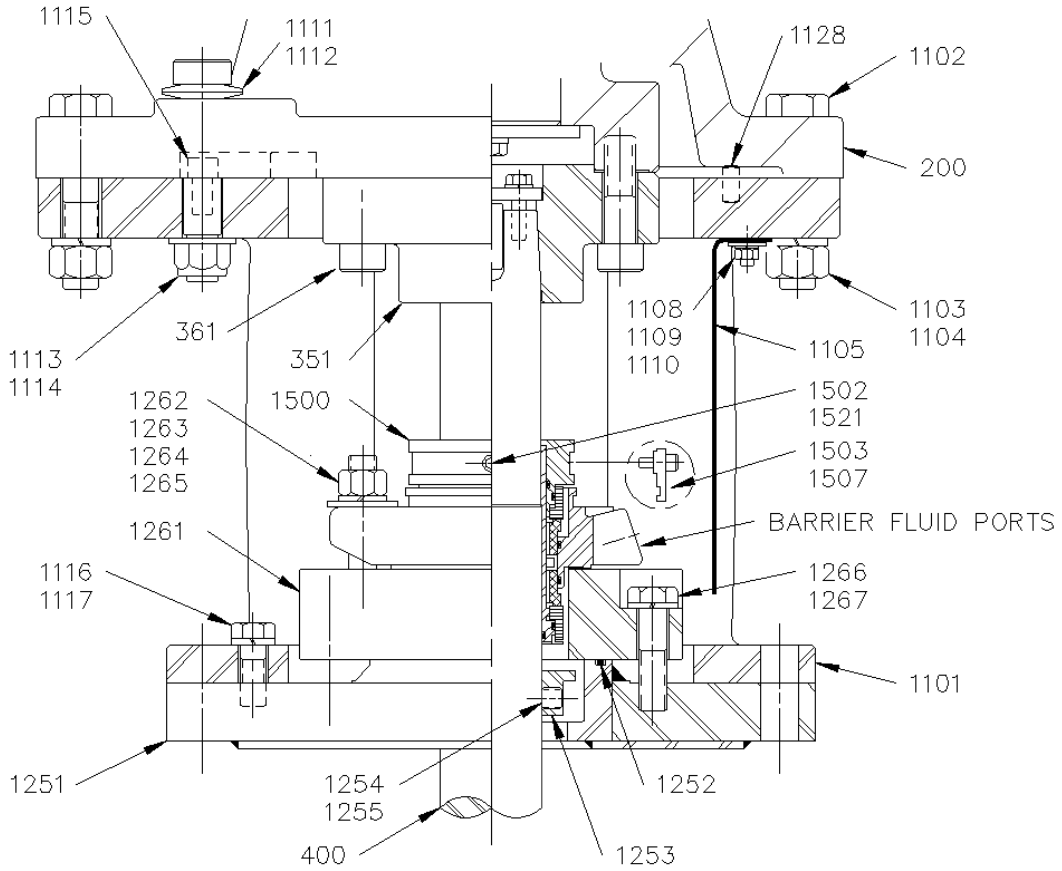

Figure 5. N Style – Double mech. seal with adapter plate
8. Orient the barrier fluid ports as shown in Figure 5, page 22. Install nuts, lockwashers and flatwashers [1263, 1264, 1265]. Torque the nuts to the value shown in the APPENDIX, Page 101.
- For clockwise shaft rotation as shown in Figure 5, page 22, the barrier fluid supply enters through the left port. The barrier fluid return exits through the right port.